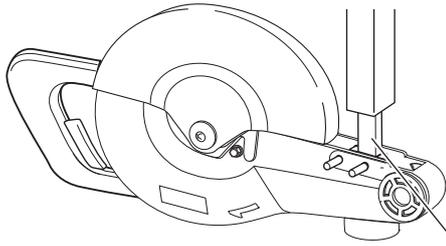

Fig. 4.
- 4) Put the block between the inserted 2 bars. And set the separated motor unit on the turn base of arbor press as illustrated in Fig. 4.